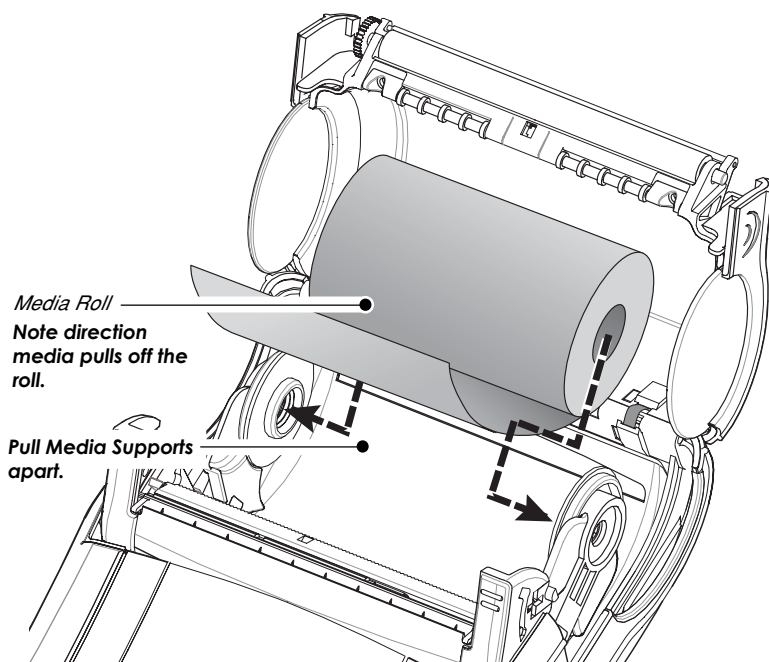

*FIGURE 5: OPENING THE QL 420*
**1. Open the printer:** Refer to Figure 5.